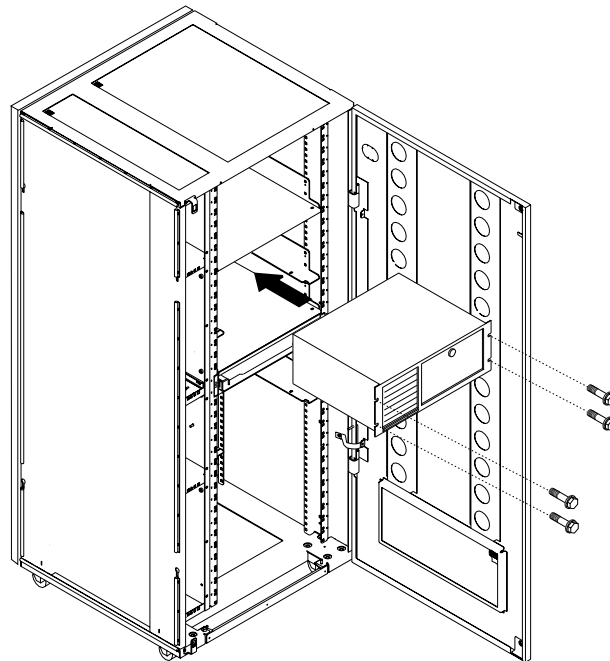

Figure 1-13. Installing the Service Processor Unit in the Controller Expansion (Front Side)
16. ____ Slide the service processor unit on the brackets as shown in Figure 1-13, then secure the unit using four screws (PN 1621230).